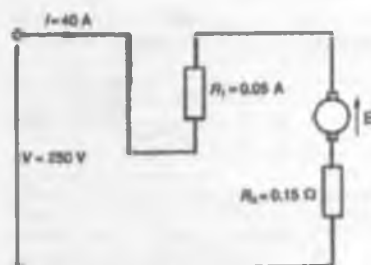

Figure 22.27
The circuit is as shown in Fig. 22.27. From equation (10), efficiency,